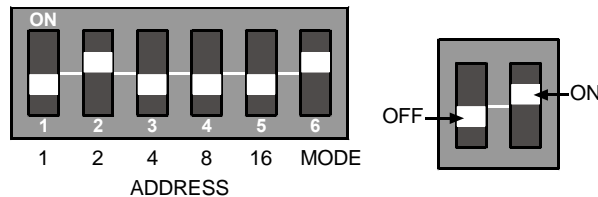

Figure 2: Command Center DIP Switch Orientation
* The switches listed in this column are the switches that must be placed in the ON position. See Figure 2 for correct DIP switch orientation.